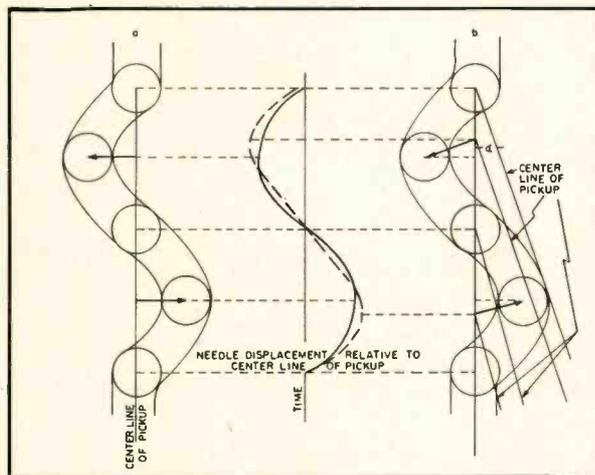

Fig. 2. Distortion caused by tracking error arrows indicate maximum stylus displacement relative to pickup.
It is evident that an arm which maintains tangency well due to its offset design may actually produce more side thrust than an arm with greater tracking error, and distortion generated by non-tangency cannot be laid primarily at the door of improper seating of the stylus in the groove. Even if the arm holds the pickup at an angle to the groove tangent, the stylus may follow the groove convolutions without error. Stylus motion in an oblique, pickup however, will not be perpendicular to the groove, and instantaneous stylus displacement relative to the longitudinal axis of the pickup will not correspond to the recorded signal. Figure 2 shows consecutive positions of styli in two identically modulated grooves. In (A) there is no tracking error. Displacement of the stylus relative to the pickup, plotted against time, is a copy of the groove's wave form. In (B), with the stylus tip still following the groove, a tracking error of  $\alpha$  results in a distorted shape of the same graph. As can be seen, maximum stylus displacement relative to the center line of the pickup occurs first too soon and then too late within the recorded period. Maximum stylus displacement across the pickup is also greater in amplitude than maximum displacement relative to the center line of the groove.